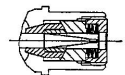

Figure 4
- 4.6. Draw needle (13) back until the hexagon key fits into the retaining screw without touching the end of the needle (See Figure 4).